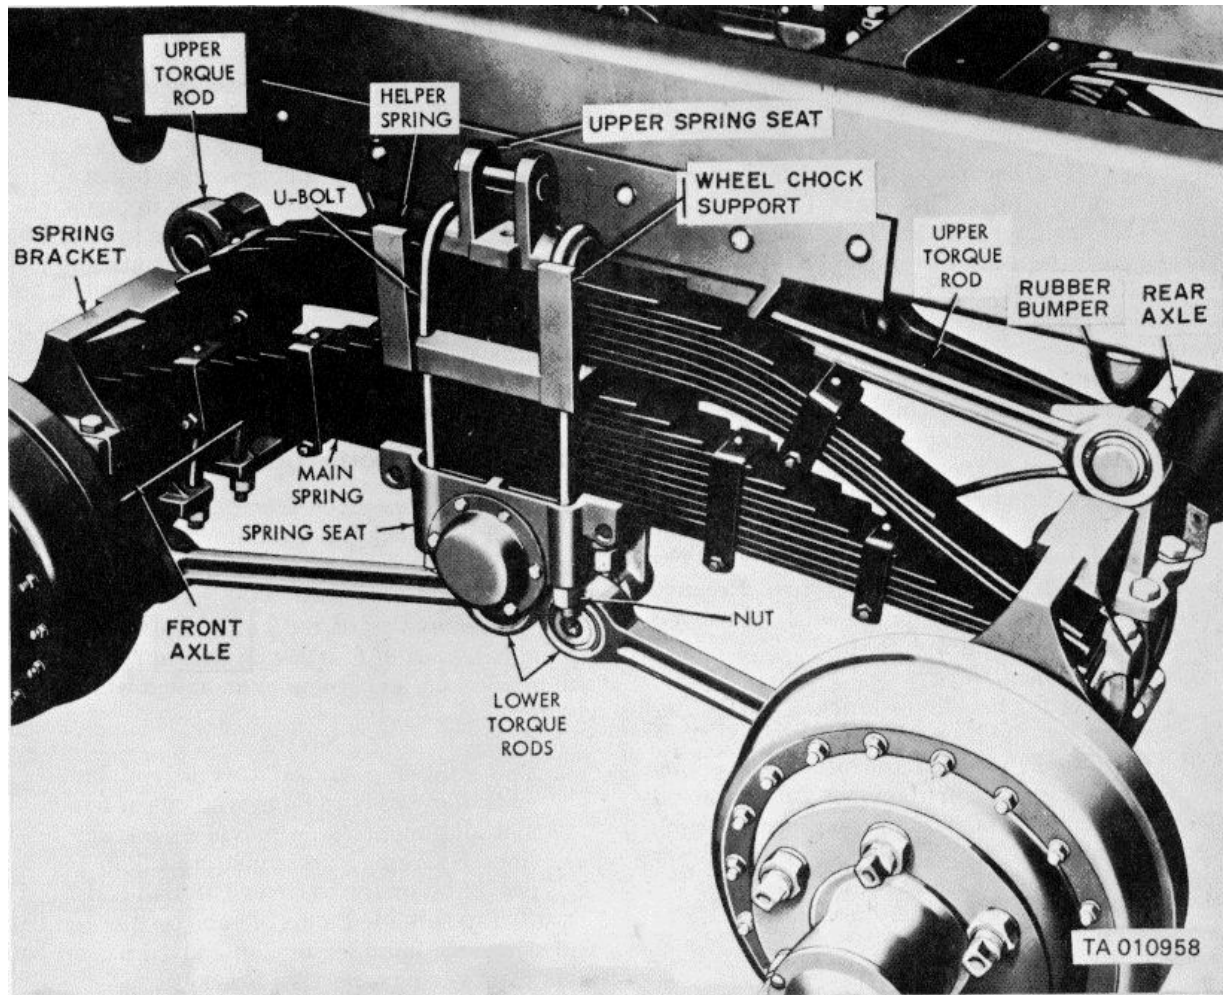

Figure 4-39. Tandem suspension system-installed view.
(4) Remove four nuts and lock washers (fig. 4-39) from two U-bolts securing upper spring seat, helper spring assembly, spacer and wheel chock support and main spring assembly to lower spring seat. Remove U-bolts.
(5) Remove upper spring seat (fig. 4-39) complete with attached retaining chain and wheel chock.
(7) Move main spring assembly, spacer and helper spring assembly (fig. 4-39) as a unit toward the rear of the semitrailer until the front end of the springs clears the front axle spring bracket.
(8) Remove helper spring assembly by lifting front end of spring up and forward far enough for rear end of spring to clear rear axle bracket.
(9) Remove spacer and support by lifting up and away from top of main spring assembly.
(10) Remove main spring assembly by the same procedure used for removal of helper spring assembly (step 8 above).
(1) Support weight of semitrailer by jacking up axle and bracket assembly at end from which spring seat is to be removed. (fig 4-39).
(2) Remove four nuts and lock washers from two U-bolts and remove U-bolts (fig. 4-39). Lift off spring seat on top of spring assembly (fig. 4-39).
(3) Loosen two bolts (13) from inner face of spring seat (15). Raise ends of main axles until bottom of spring assembly and center bolt clear top of spring seat.
(4) Remove six bolts (22) and lock washers (21) from access cover (20). Remove access cover and gasket (19). Discard gasket if defective.
(5) Remove adjusting nuts (17) and key washer (18) using wrench NSN 5120-00-795-0059. Remove outer tapered bushing (11).
(6) Remove spring seat assembly (15) by using slight rocking motion (left and right) while carefully sliding seat out and away from axle and bracket assembly (1). It is possible inner bearing cup (12) will remain in spring seat.
(7) Remove inner tapered bushing (11), encased seal (9), packing retainer (8), flat washers (6 and 7) from axle and bracket assembly (1). Discard seals.
(2) Install flat washers (6 and 7), encased seal (9) and inner tapered bushing (11) on axle and bracket assembly (1).
(3) Install inner bearing cup (12) in spring seat (15) and slide seat on axle and bracket assembly (1) against flat washer (7) and seal (9) and over flat washer (6).
(4) Install outer bearing cup (12), outer tapered bushing (11) and inner adjusting nut (17). Using wrench NSN 5120-00-795-0059, tighten inner adjusting nut (17) to a torque of 70 lb-ft. Back off approximately one-fourth of a turn. Spring seat (15) should turn freely without lateral movement.
(5) Install key washer (18) and secure with outer adjusting nut (17), tightening to a torque of 150 lb-ft. Peen outer edges of lock nut over no less than two flats of each adjusting nut.
(6) Install access cover (20) with new cover gasket (19) and secure with six bolts (22) and lock washers (21).
(7) Lower main axles until spring assembly seats in top of spring seat. Spring assembly center bolt must fit into recess in top of spring seat.
(8) Position upper spring seat on top of spring assembly. Install two U-bolts over upper spring seat and down through four holes in spring seat assembly. Secure U-bolts with four nuts and lock washers (fig. 4-39). Torque nuts to 255-280 lb.-ft.
(9) Tighten two bolts (13) on inner face of spring seat (15) with a torque of 280-365 lb-ft.
(10) Remove jack supporting axle and bracket assembly.